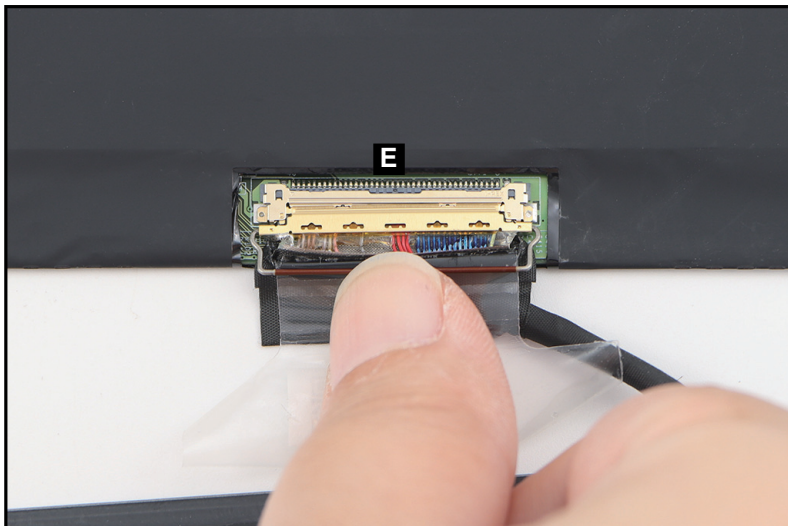

Figure 1-55. LCD Panel Removal
5. Disconnect the eDP cable from the LCD panel connector (E) (Figure 1-55). Then remove the LCD panel.